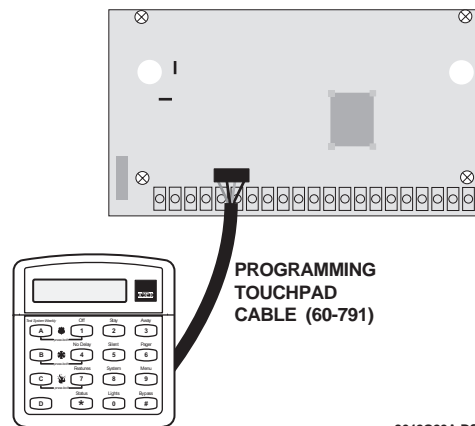

Figure 21. Connecting a Programming Touchpad
Be sure to have an alphanumeric (programming) touchpad on hand for on-site programming in installations that do not include one as part of the final system configuration. This programming touchpad can be connected to the Programming Touchpad Header (see Figure 21), using a Programming Touchpad Cable (part no. 60-791).
Connect the power transformer to the panel as shown in Figure 21.
3. Connect the plug on the cable onto the panel programming touchpad header (see Figure 21).